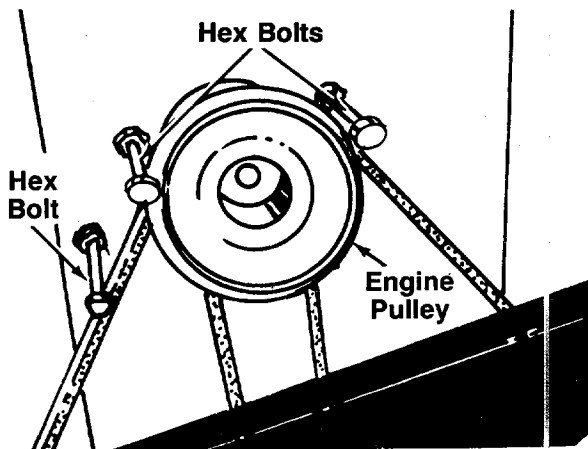

FIGURE 2.—Single Cylinder Engine Lawn Tractor Shown
2. Remove the hex bolts (belt keepers) from the engine pulley belt guard. See figure 2.
NOTE: Your unit will have either two or three hex bolts. When reassembling, make certain hex bolts are assembled in the same locations from which they were removed. See figure 2.
NOTE: Figure 2 is shown with the unit tipped up for clarity. It is not necessary to tip the unit to remove the belts.